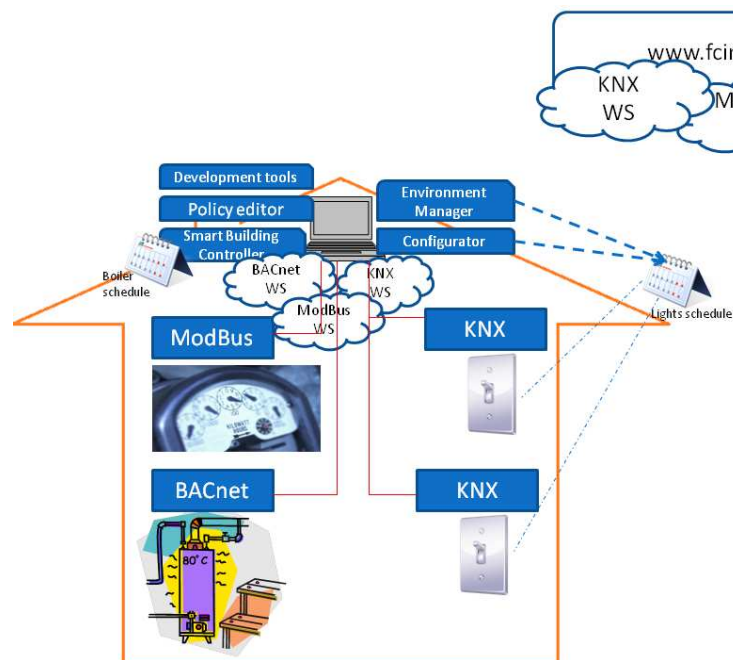

Figure 5. Create device schedules
- The user defines a number of schedules for individual devices or for groups of devices. The schedules are ready on the SBC for execution (figure 5)